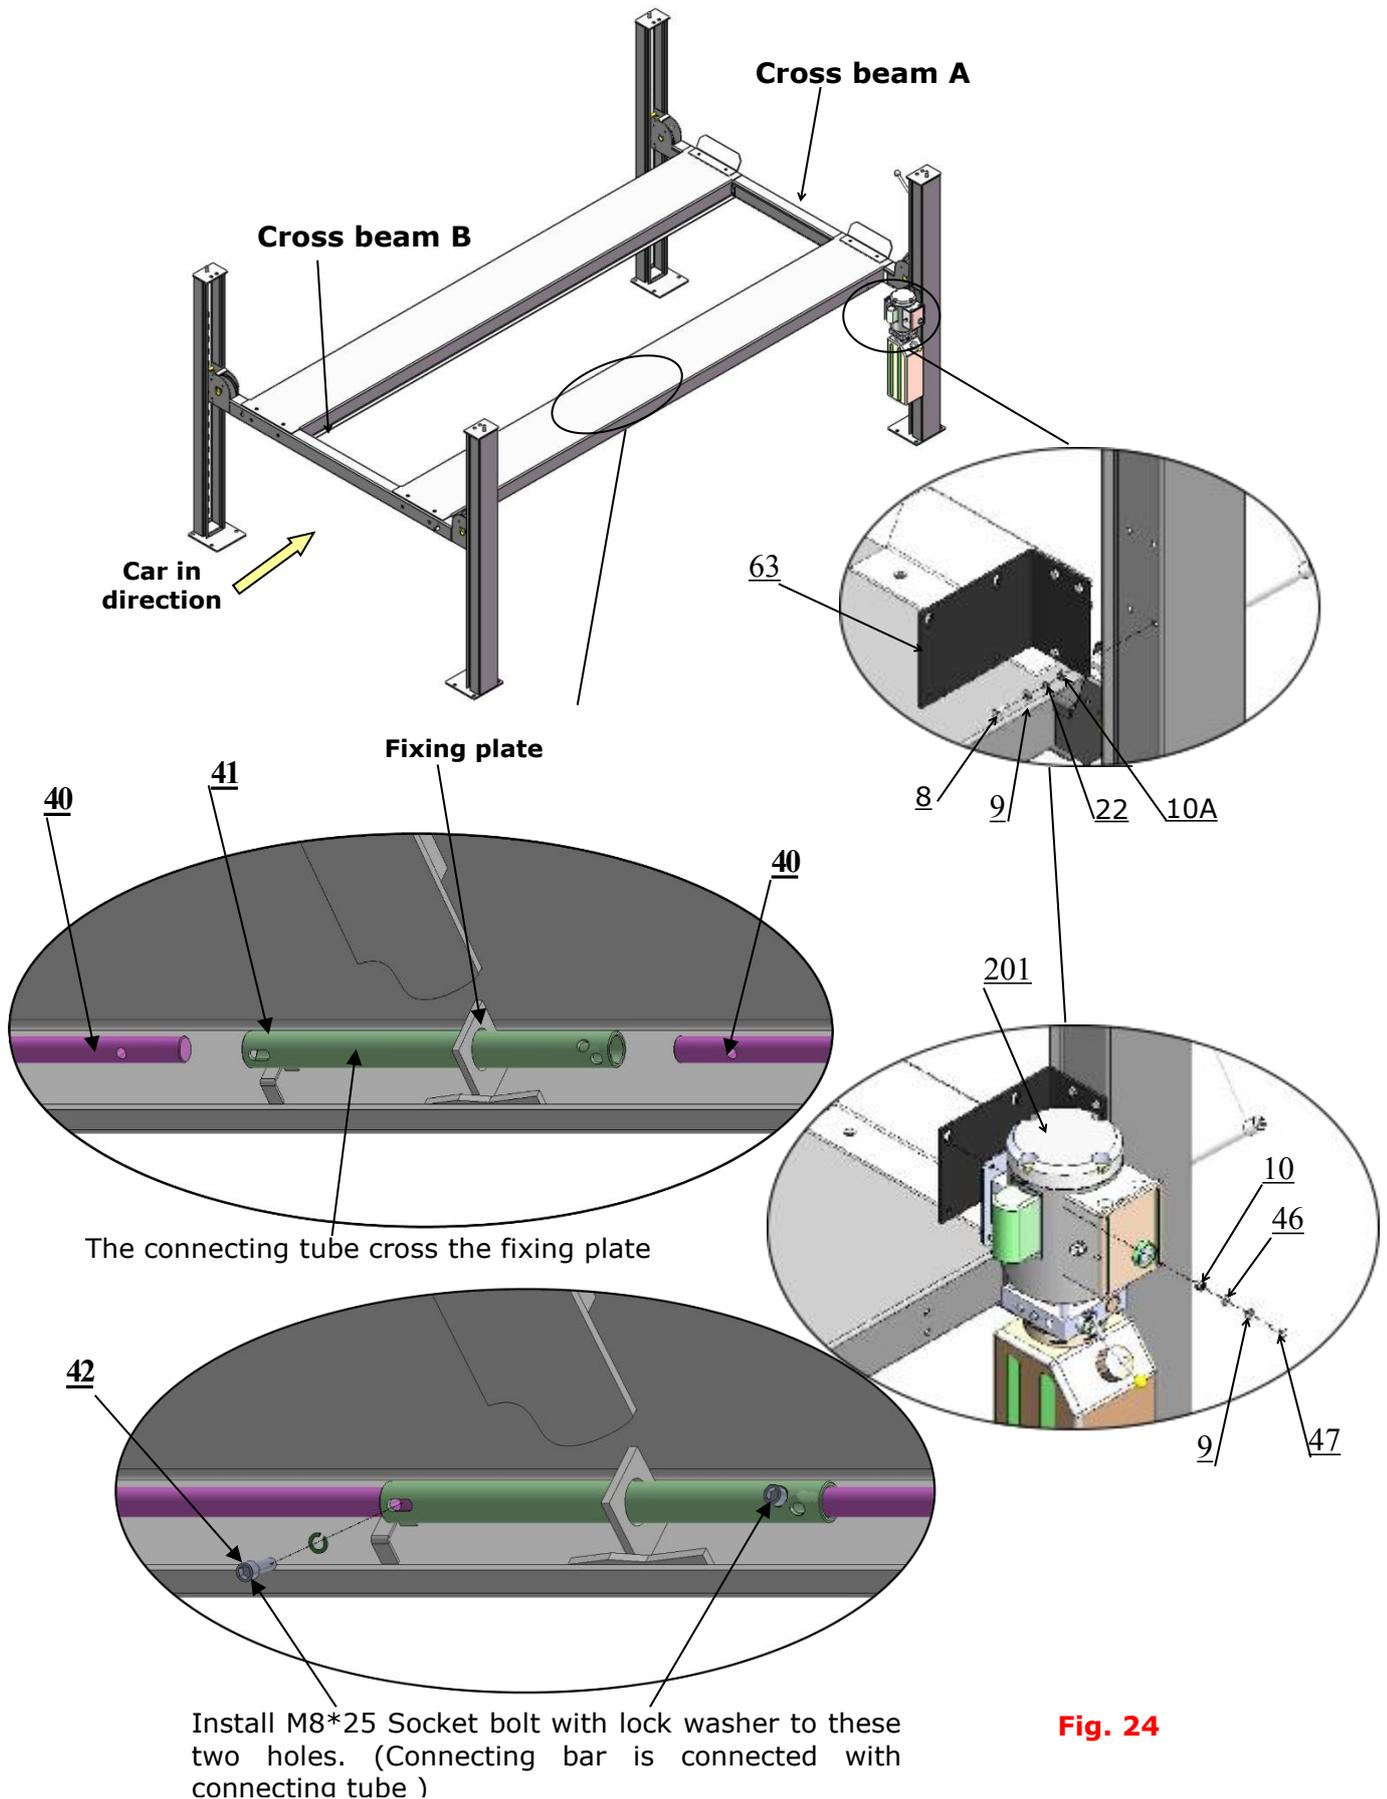

Fig. 24
1. Install Power unit on the cross beam **A**, the installation of Connection tube is as Fig.24